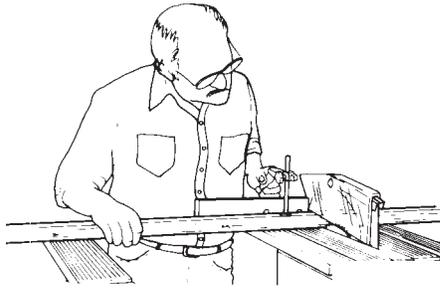

Figure D-2
7. Mount an extension table in the power or base mount located at either end of the Mark 7. Use a miter gauge extension to help keep the stock square to the blade. Start by cutting long stock in the middle. This gets it down to a manageable length. See Figure D-2.